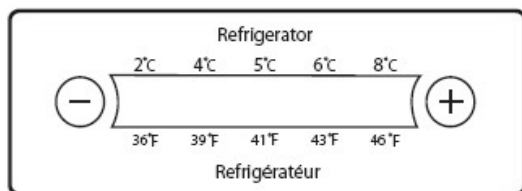

Fig.2.
- 7) Remove hole plugs from left side and move them to opposite side (see **Figure 2** on following page).
- There is a temperature digital display panel in the fresh compartment (See Fig.2.). Digits in the upper line are celsius temperature, while dig its in the bottom line are fahrenheit.